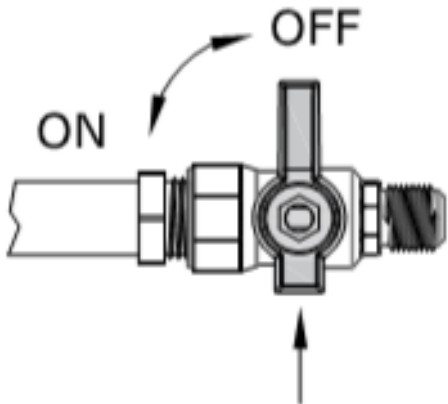

Figure 6.5 - Step 1
1. First locate the main shut-off valve upstream of the appliance connector and close the valve clockwise to the OFF position. Figure 6.5. Disconnect electrical power.